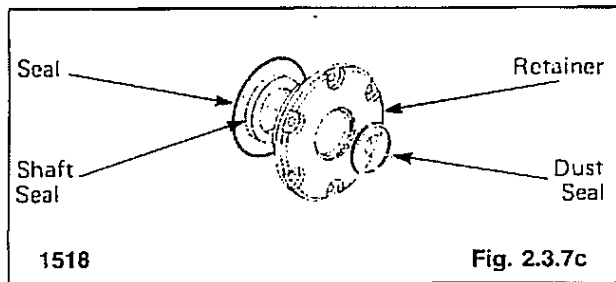
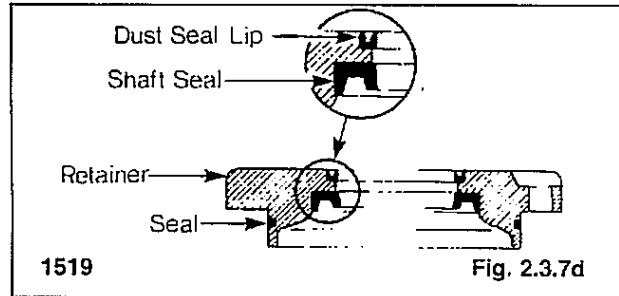

Fig. 2.3.7c
Fig. 2.3.7d
3. Install the dust seal in the retainer plate (fig. 2.3.7c). The metal side of the dust seal must face upward.
4. Install the retainer seal and the shaft seal (fig. 2.3.7c). The smooth or flat side of the shaft seal must face toward the retainer (fig. 2.3.7d).